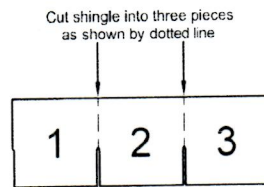

Figure 46. Shingle cut into thirds
- Install shingle cap.** Starting at the opposite end of the home from the prevailing wind, install ridge cap shingles provided by the manufacturer or use 12" x 12" shingles (36" shingles cut into three equal pieces) (**Figure 46**). Install using 1" x 1" x 16 ga galvanized staples or 12 ga 1-1/4" long, 3/8" diameter head roofing nails spaced 5-5/8 inches from bottom edge and 1/2 inch to 1-1/2 inches in from both edges. Cover the exposed fasteners with tar or cement.